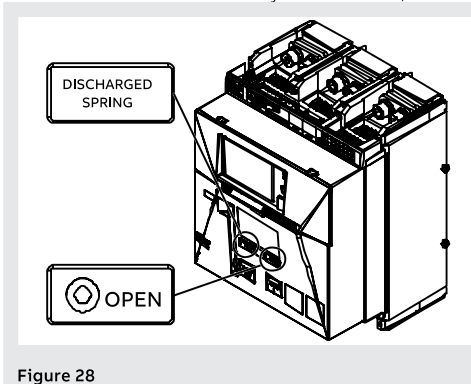

Figure 28
1. Make sure that the circuit-breaker is open. The "O - OPEN" opening/closing indicator must be activated. Check that the springs are discharged. The spring indicator must indicate "DISCHARGED SPRING - white colour", as illustrated in Figure 28.